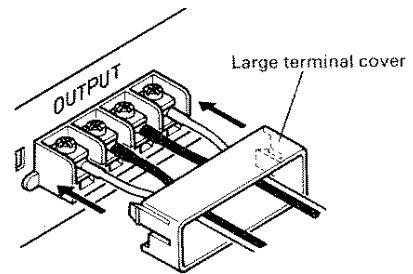

Fig. 3
5. Fit the large terminal cover. (Fig. 3)